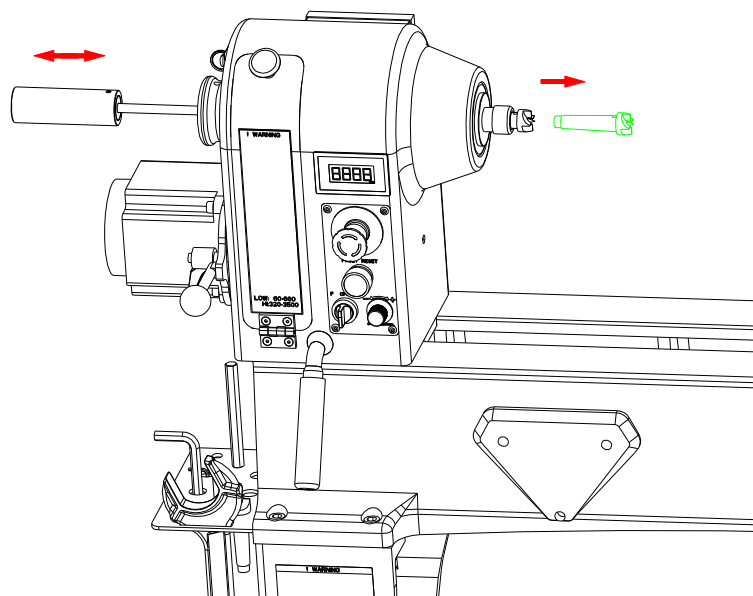

Fig .15
- 3, To remove the center, insert the knockout rod from back hole in end of spindle and tap the center end (Fig. 15) out.